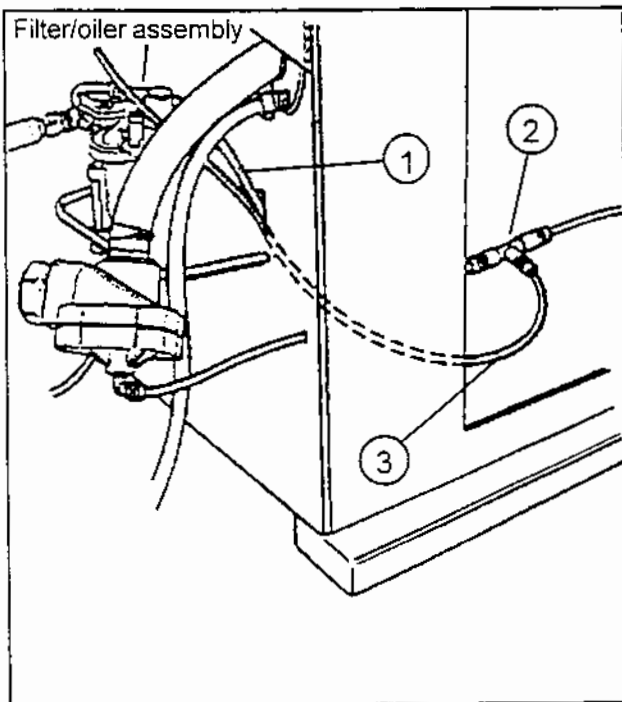

Figure 3 - Air Installation detail
- B. Locate the air hose coming from the oiler side of the filter/oiler assembly which is mounted on the rear of the cabinet. See Figure 3 hose #1.
- C. Cut the air hose (#1) coming from the air filter/lubricator and attach "Tee" fitting #2 as shown in Figure 3.